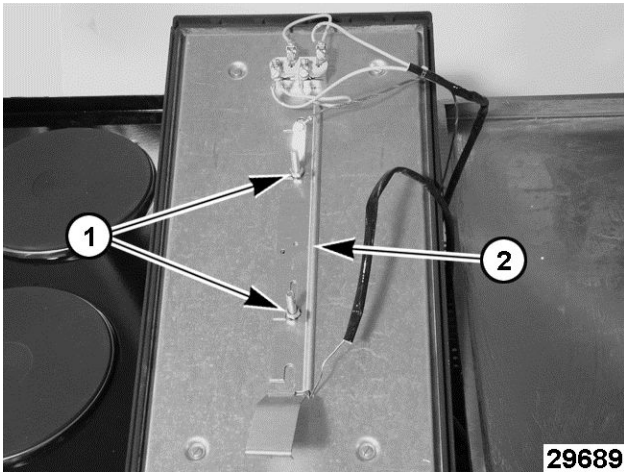

Fig. 32
6. Remove mounting nuts (1, Fig. 32) from thermostat bulb clamp (2, Fig. 32).